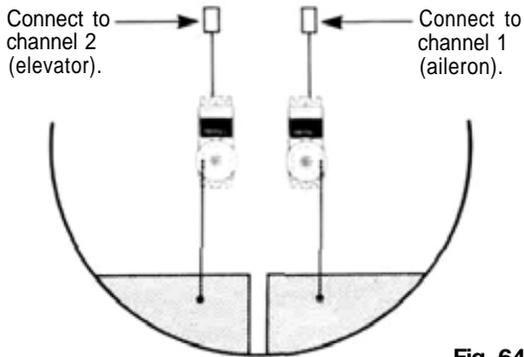

Fig. 64
- Install and connect the servos as shown in Fig. 64. Always connect the Right side servo to CH1 (Aileron).